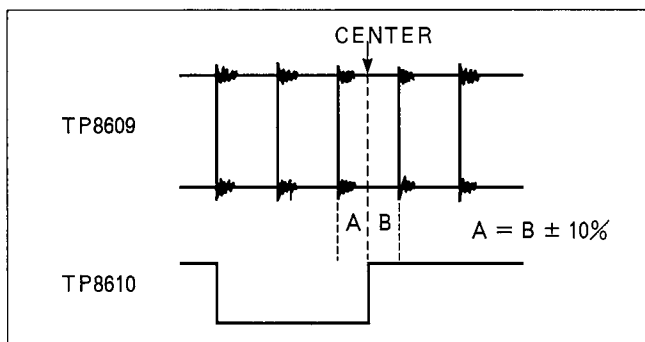

Figure E40
2. Adjust VR8603 so that the up edge of H pulse becomes as shown in Figure E40.